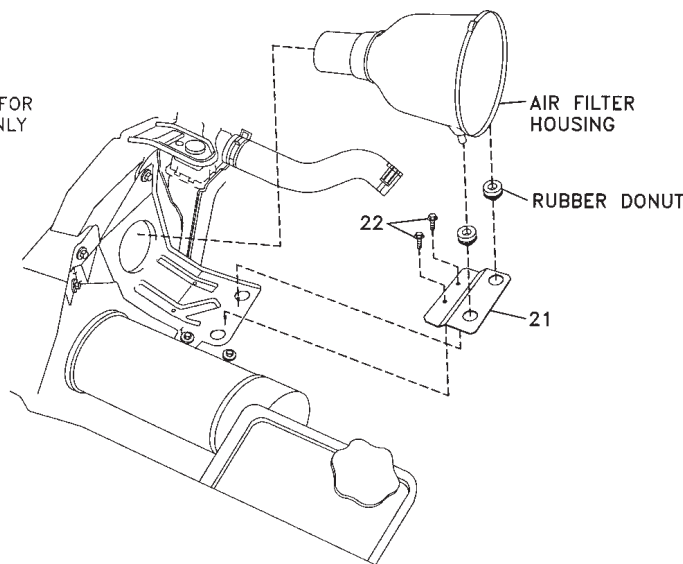

FIGURE 4. F350 V8/GAS CLUTCH PUMP INSTALLATION
3. Remove the fan shroud and fan. Repositioning the air cleaner, are for the 5.4L engine only. Refer to fig. 4. If you have the 6.8L engine, discard the DewEze air cleaner bracket (21).
5. Remove the rubber donuts from the OEM air cleaner support and place them in the holes in the DewEze air cleaner bracket (21). Hold this bracket on top of the OEM support placing the small holes in the DewEze bracket in between the large holes in the OEM support. Run the 3/16 x 3/4 self-tapping screws (22) through the small holes into the OEM support.
8. Mount the crank pulley (16) to the damper using three M10 x 60 bolts (17), 10mm lock washers (18), and 3/8 flat washers (19).
9. Bolt the pump (6) to the rear of the mounting bracket (1) using two 3/8 x 1 1/4 bolts (13) and two 3/8 flat washers (14). Attach the clutch coil (7) to the front of the bracket using four flange bolts supplied with the clutch. Insert the coil wire through the 1/2" hole right above the coil to keep it from contacting the clutch pulley.
10. Attach the flat idler pulley (3) to the tensioner arm (2) with the 7/16 x 1 3/16 flange bolt (10). Mount the tensioner assembly on the pump bracket at location E with one 1/2 x 3 1/2 bolt (12), inserting the bolt head on the back of the tensioner into the small hole on the tensioner mounting pad.
11. Insert an M10 x 60 bolt (11) through an idler bushing (15) and into a serpentine idler also. Mount one idler onto the boss at location D and the other idler on the boss at location G.
12. Mount the pump bracket onto the engine at locations A, B, and C with the three M10 x 110 bolts (8) with 3/8 flat washers (14). Torque these bolts to 30-41 ft/lbs.